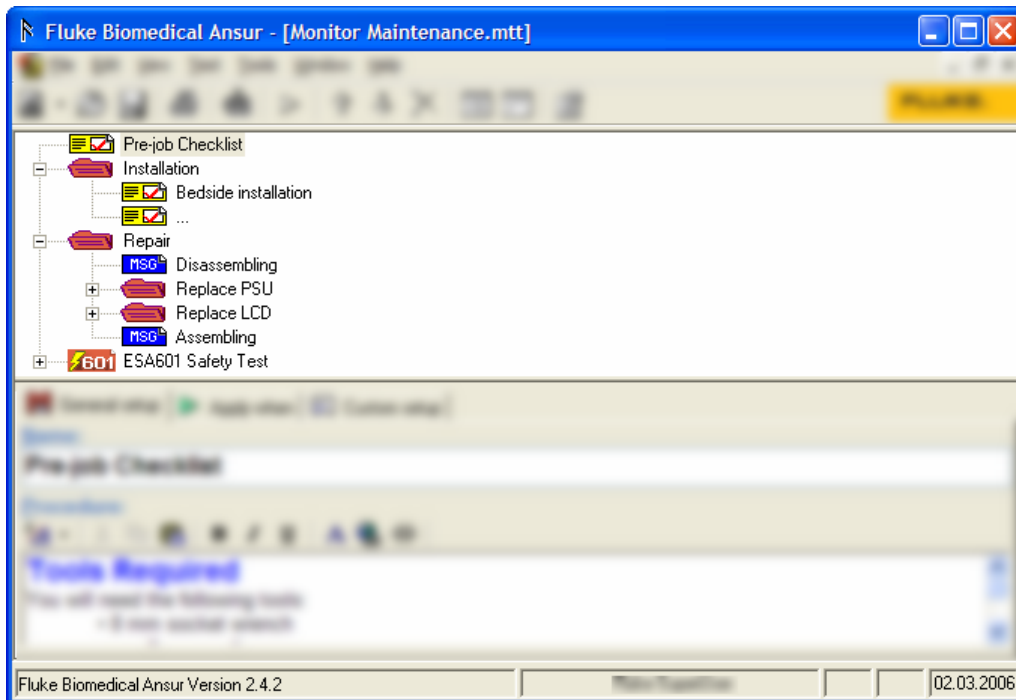

Figure 83 - Sample template for monitor maintenance
The template created is now displayed in Ansur. Figure 83 illustrates an example of such a template. The Ansur explorer has been hidden on this figure.
The example template shown in Figure 83 contains three main test blocks: *Installation*, *Repair* and *ESA601 Safety Test*. These test blocks have been created by placing test elements within test containers (see section 6.3 on page 44).
- 10 Click the test element named **Installation** shown in the template window on Figure 83. Then click the **Apply when** tab in the test element setup frame.
- 12 Click the test element named **Repair** shown in the template window on Figure 83.